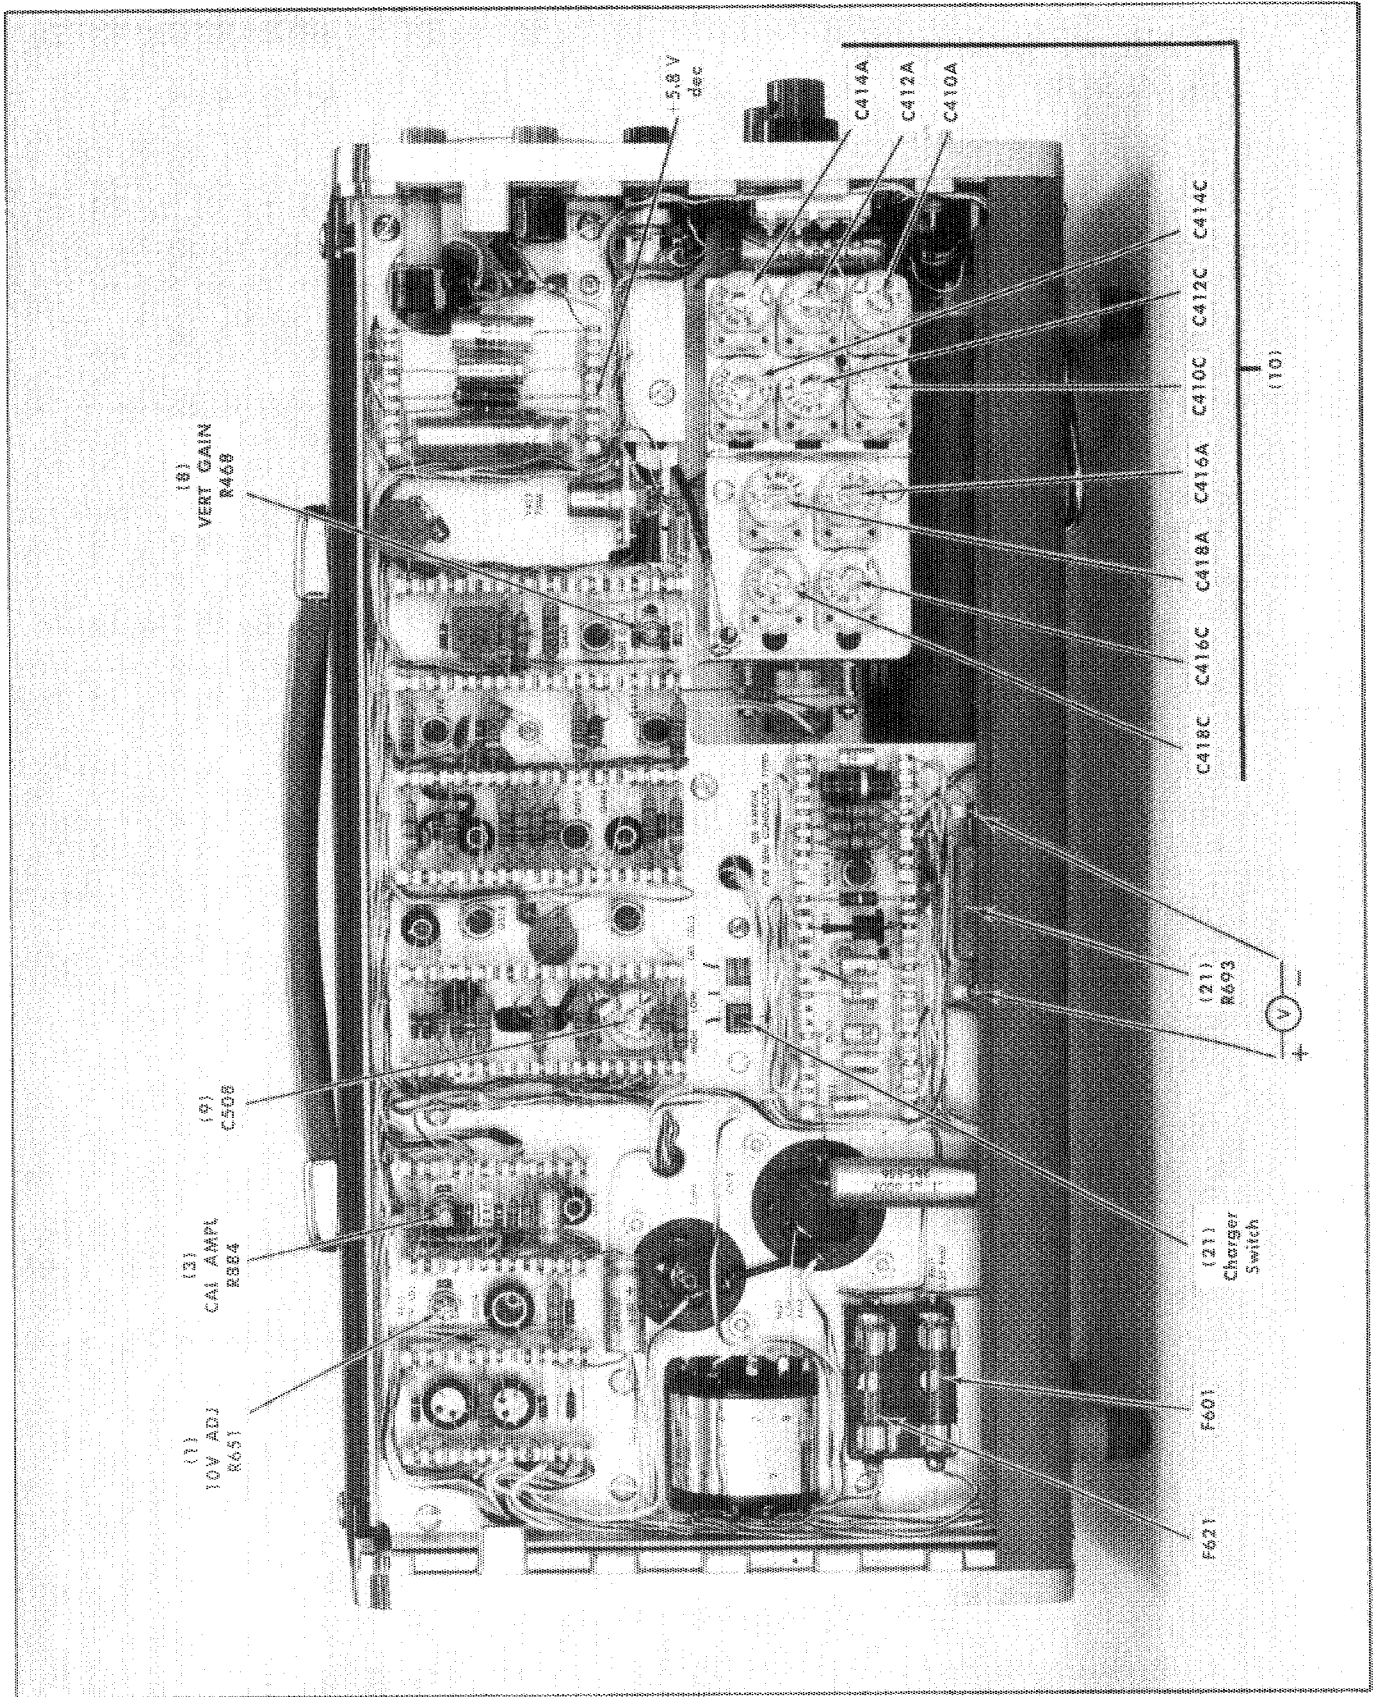

Fig. 6-5. Left-side view of the Type 321A Oscilloscope. The numbers in parenthesis refer to steps in the Calibration procedure.
- c. Approximately 4 divisions of signal should be displayed. Adjust the VERT GAIN R468 control (see Fig. 6-5) for exactly 4 divisions of vertical deflection.
- e. Adjust C508 (see Fig. 6-5) for best square-wave response; that is, for squarest leading top corner on the waveform.
- i. Using the information given in Table 6-2, adjust the two capacitors for each position (starting with the .02 VOLTS/DIV position) for best square-wave response. Location of the variable capacitors is shown in Fig. 6-5. Then, continue in a similar manner for the remaining VOLTS/DIV switch positions listed in the table. Maintain 4 divisions of deflection for each switch position providing the generator has sufficient output.
- e. Connect the dc voltmeter across R693. See Fig. 6-5 for location of R693 and polarity of voltage. Use Table 6-4 as a guide for typical voltage readings that should be obtained for the various switch positions.